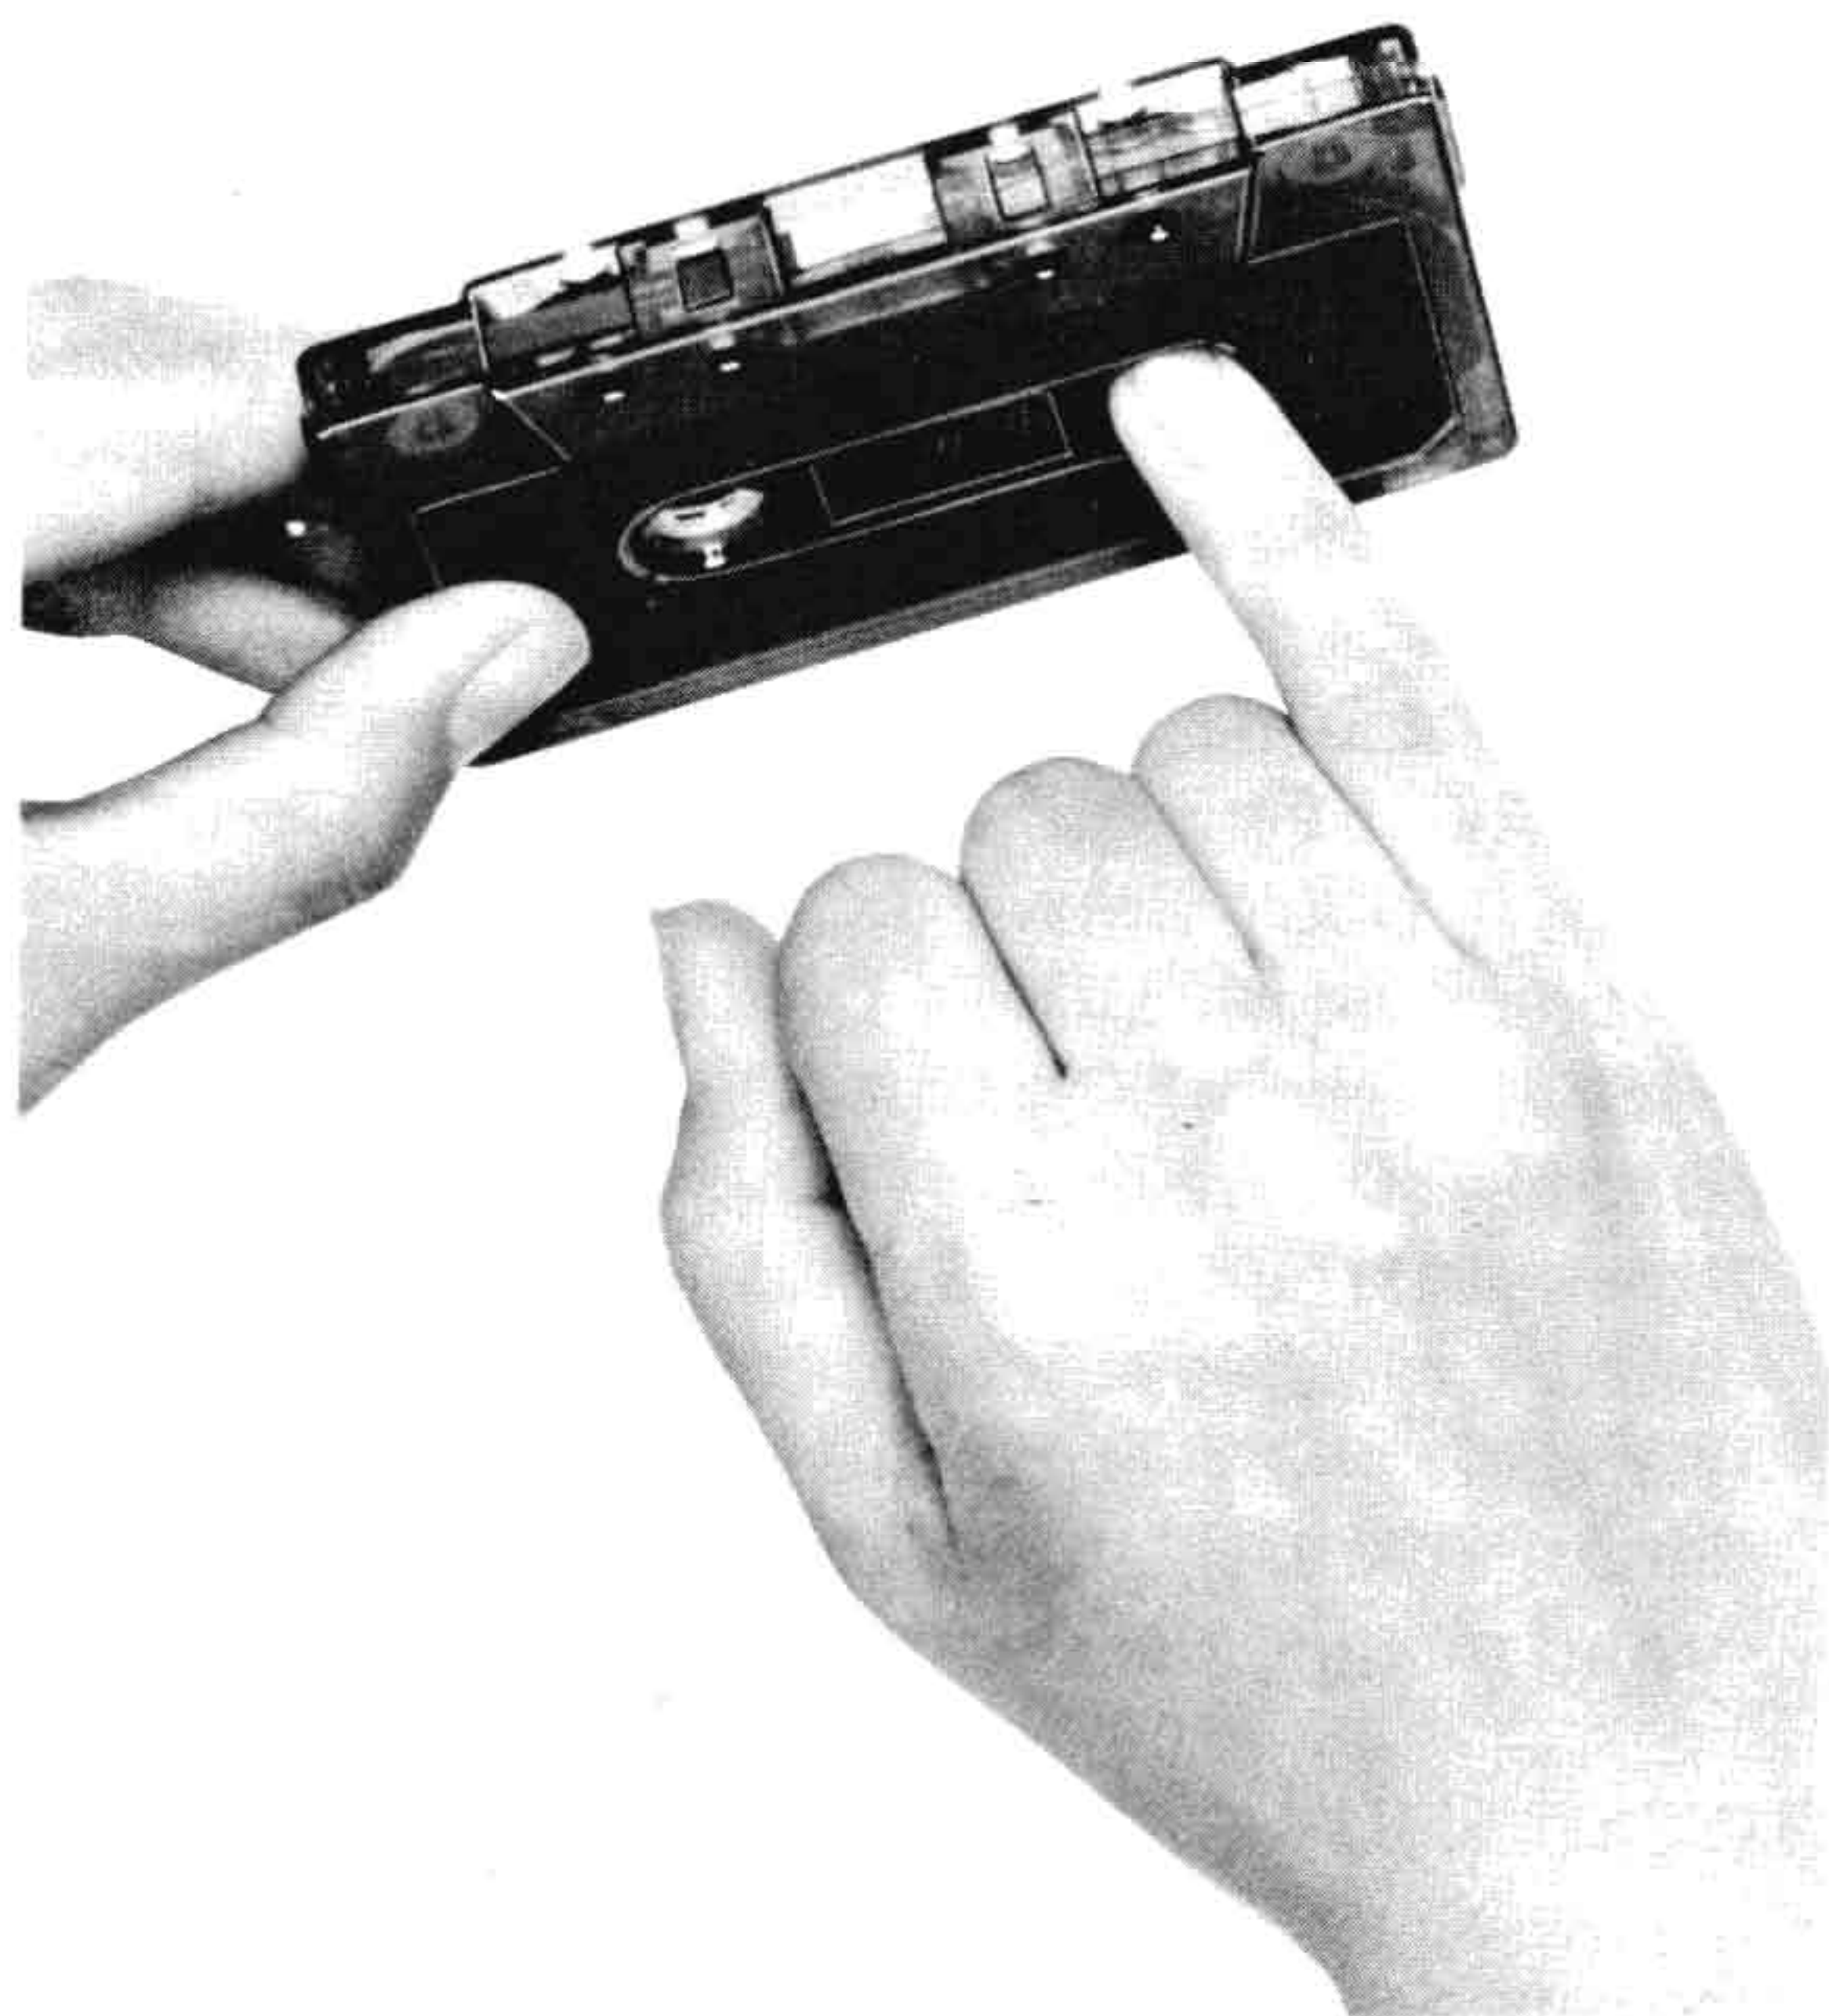

Figure 4. Cassette Preparation
2. Before inserting the cassette, take up the slack of the tape to prevent it from becoming entangled around the capstan. Twist the cassette hub inside the cassette with your fingernail or with a pencil. (See Figure 4.)
When taking up the slack in the cassette before inserting it for recording, advance the tape so that the spliced area of the tape is ready to pass the recording head (see Figure 4). By knowing exactly where the recordable tape begins, you can assure that the beginning of the program will be recorded.